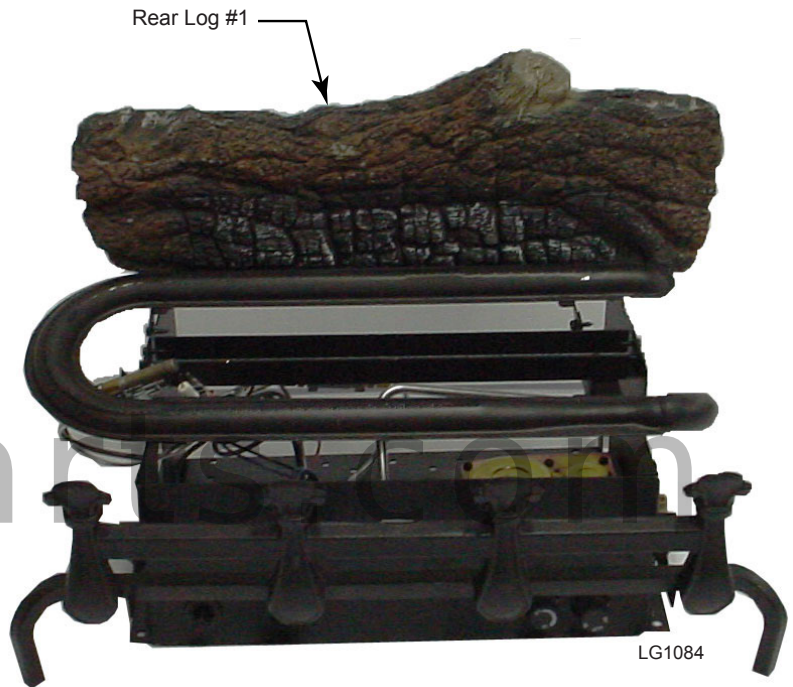

Figure 16
1. Place Rear Log (#1) on rear support. *Figure 16.*